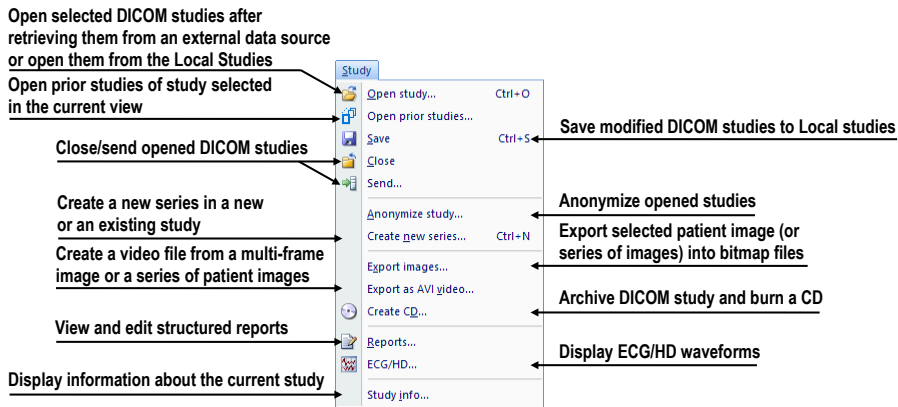

Figure 40 – Study menu
- **Study** – patient study operations containing the functions for opening/closing/saving studies, anonymizing and burning studies onto a CD, exporting images and creating/viewing structured reports (see Figure 40).